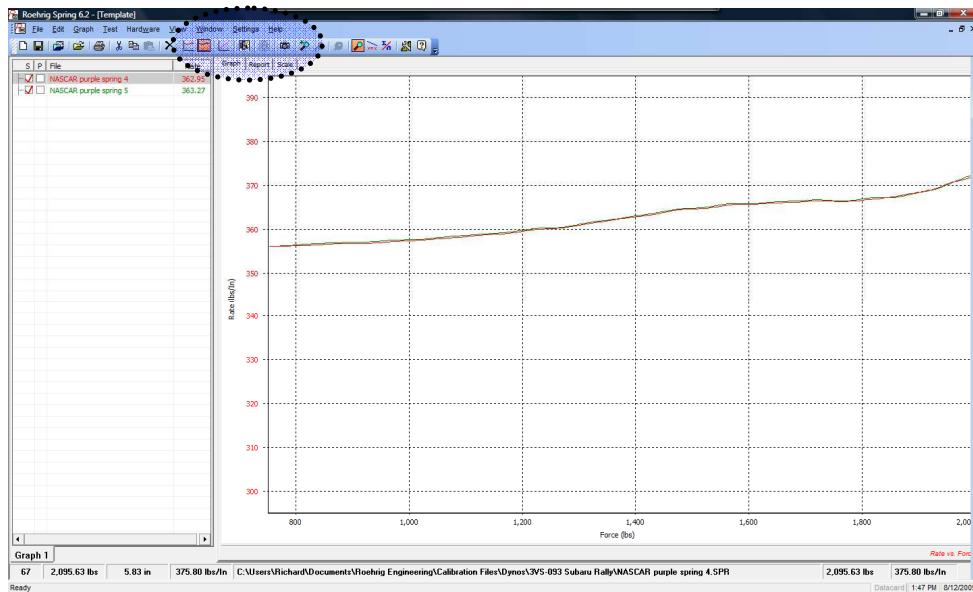

Figure 8: Spring Graph viewed as Rate vs. Displacement.
To aid the operator in analyzing the graph a movable curser and zoom window are available. To use the curser select the desired data file from the list of open files on the left of the screen and use the right and left arrow keys to move the curser along the trace. The data from each data point will be displayed on the status bar at the bottom of the screen. To zoom in on a section of the trace, place your curser at a point on the graph, hold down the left mouse button, and drag a box around the area you wish to zoom, or use the buttons on the zoom tool bar. Use the **Reset Zoom** button on the tool bar to return to full view. You can copy the graph to a document by clicking the camera icon (Figure 8) in the toolbar, then click paste in the document you have open.
*Run Constants* tab describes the selected test. The **Average Rate** is the average of all data points in the test range the **Range Rate** is a rate average of the first and last data points in the test range. (Figure 8)